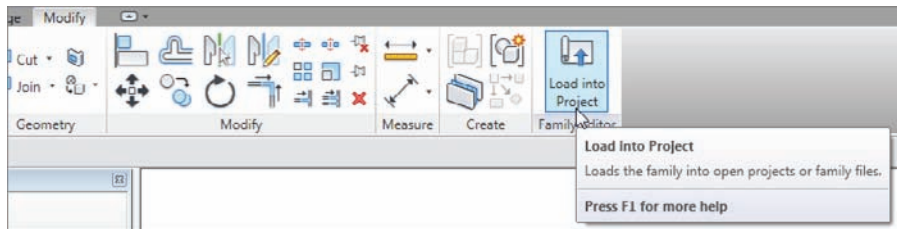

FIGURE 12.31 The Load Into Project button
19. On the Family Editor panel on the Create tab, click the Load Into Project button, as shown in Figure 12.31.